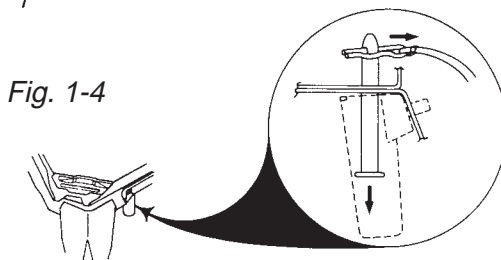

Fig. 1-4
NOTE: To prevent the two (2) shipping pins from falling on the floor, two (2) plastic holders are attached to the base. (*Fig. 1-4*) When the cotter pins are removed, the shipping pins fall into these holders. These pins may be left in the holder cups. (*Fig. 1-4, INSET*) They will not interfere with the operation of the washer.